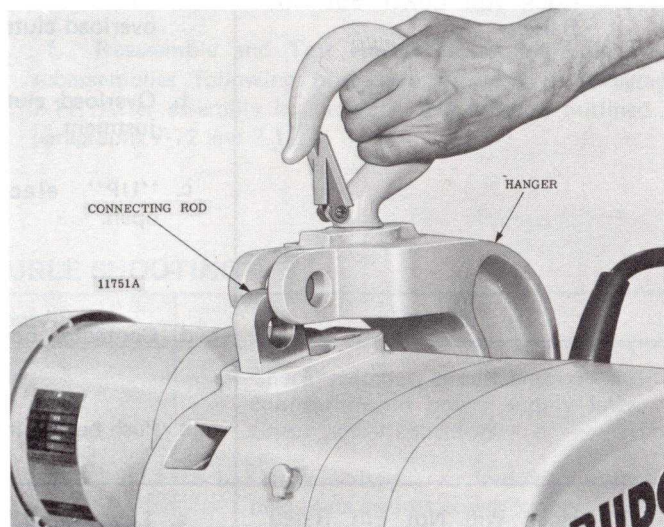
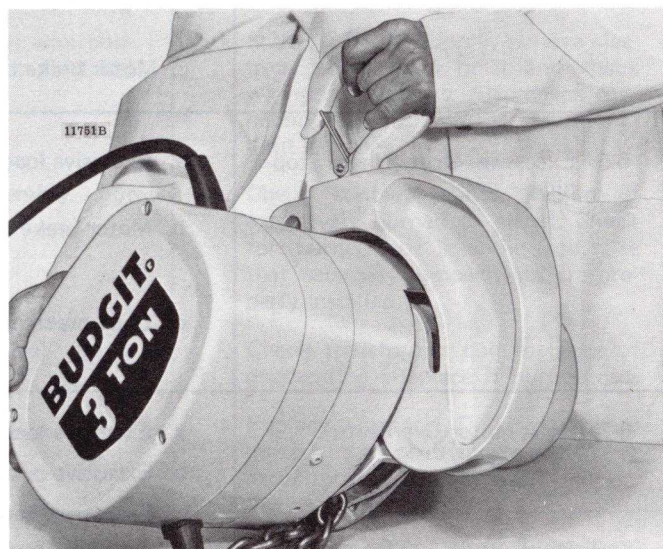
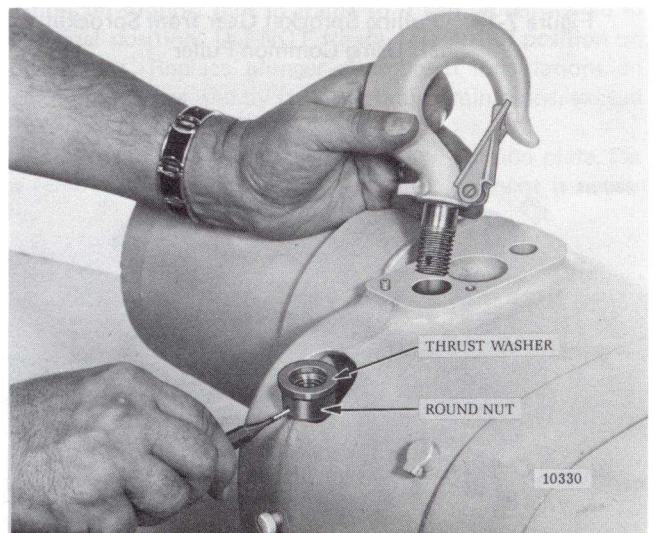

Figure 7-2. 3 Ton Hanger Bracket Connection Pin Removed
Figure 7-3. Removing 3 Ton Hanger Bracket from Hoist Frame
Figure 7-21. Removing Upper Hook and Hook Nut From Hoist Frame (1/4 thru 1 ton models)
(4) To remove 3 ton hanger bracket from hoist, remove retaining ring and connecting rod pin (see figure 7-2). Rotate hoist approximately 45° (see figure 7-3) and hanger will slip free from hoist frame.
(1) On 1/4 thru 1 ton models, drive pin from hook nut using drift punch and unscrew upper hook. Nut is reached thru access hole in side of hoist frame. See figure 7-21.
(3) On 3 ton models, remove retaining ring from connecting rod pin and push connecting rod pin through bracket and connecting rod, releasing hanger (see figure 7-2): Raise hanger above hoist frame to provide access to hook nut. Rotate hook until grooved pin in nut is visible from end of hanger frame. Using a drift punch, drive grooved pin thru hook nut until it hits hanger pocket. Remove drift far enough to hold nut from turning and unscrew hook from nut. Thrust washer will fall free.
(4) To remove connecting rod (figure 7-2) on 3 ton hoist drive pin from rod nut using drift punch and unscrew connecting rod. Nut is reached thru access hole in side of hoist frame. (See figure 7-21).